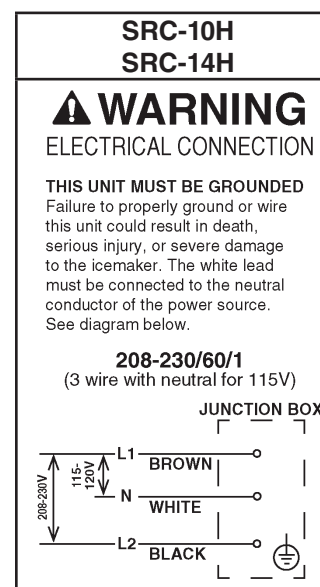

Fig. 11
- Electrical connection must be made in accordance with the instructions on the "WARNING" tag, provided with the pig tail leads in the remote condensing unit control box. See Fig. 11.